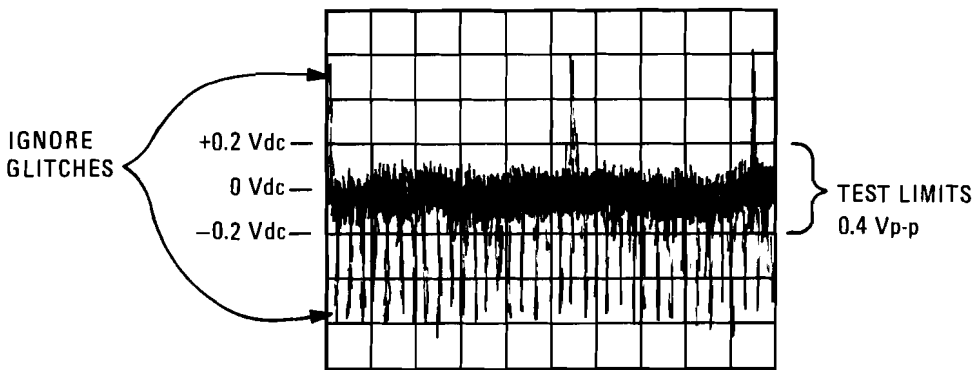

Figure 5-13. N-Loop Phase Error Signal Waveform (Adjusted Correctly at $0 \pm 0.2V$)
9. Adjust POSITION pot (A3A4R1) and the GAIN pot (A3A4R3) until the displayed phase error signal is $0 \pm 0.2V$ throughout the entire sweep (see Figure 5-13). If the POSITION pot does not have enough range, change the value of A3A4R4 within the limits described in Table 5-1.